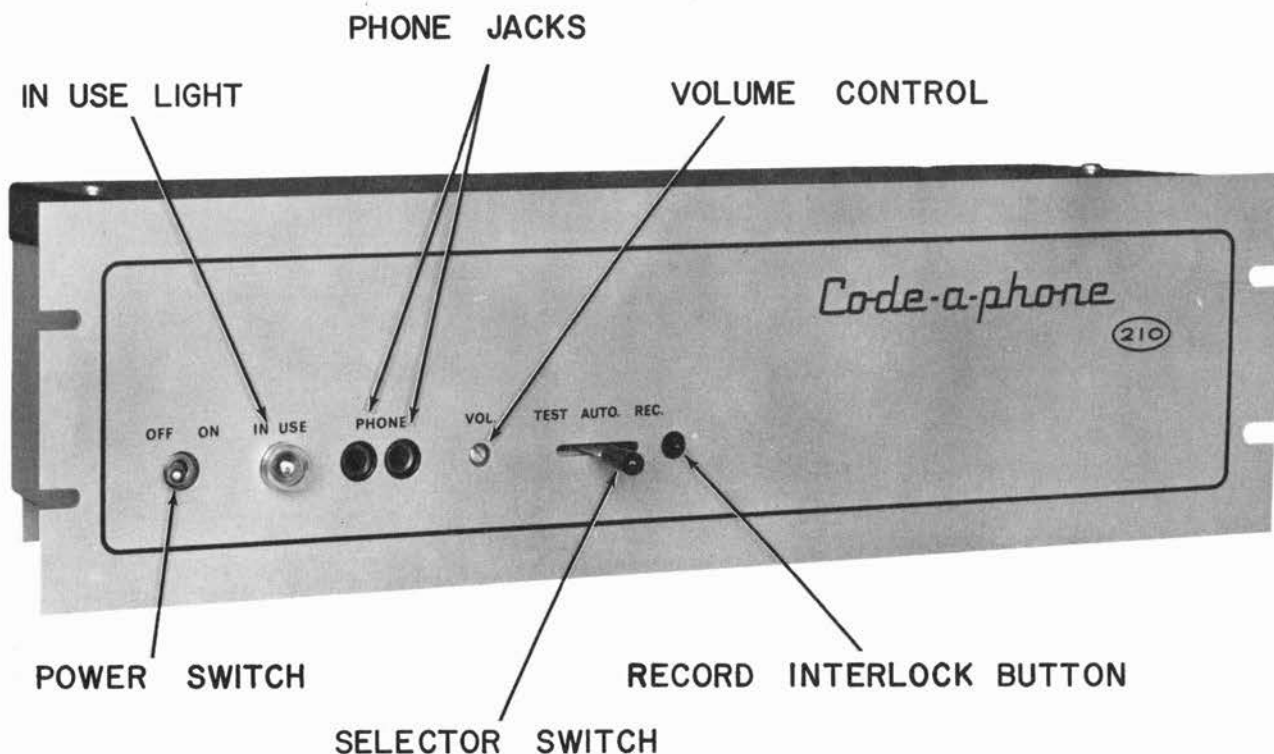

FIGURE 2-1 MODEL 210DC FRONT VIEW
2. Plug the handset or headset phone plug into the PHONE JACKS (fig. 2-1).
3. Referring to the OPERATING INSTRUCTIONS on page 2-1, record a test announcement. Make sure that the IN USE light works (fig. 2-1).
- c. Unscrew to remove selector switch knob (fig. 2-1).